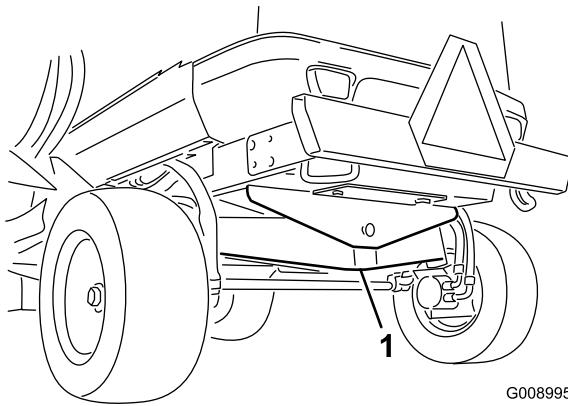

Figure 38
- Front jacking point (2)
- On the rear of the machine at the center of the axle (Figure 38).